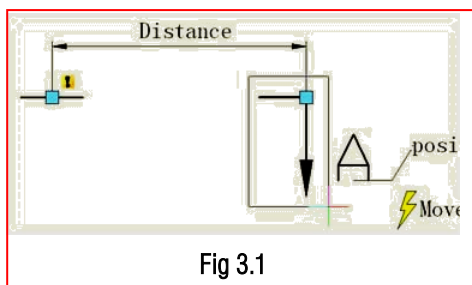

Fig 3.1
1. Pick the right grip of the Polar Parameter as an associated parameter point and specify the Stretch box (Fig. 3.1).